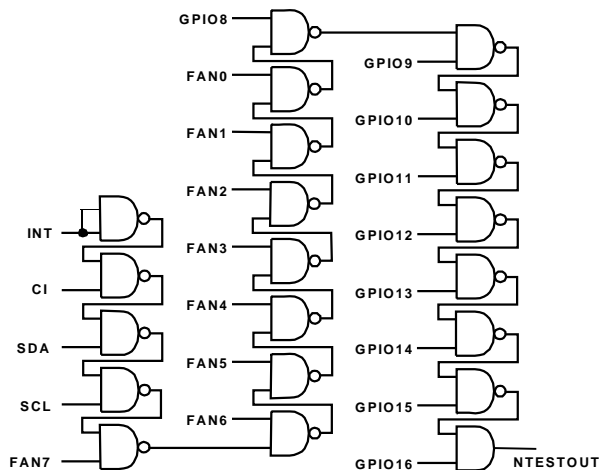

Figure 22. NAND Tree
mated Test Equipment (ATE) board level connectivity testing. This allows the functionality of all digital inputs to be tested in a simple manner and any pins that are non-functional or shorted together to be identified. The structure of the NAND tree is shown in Figure 22. The device is placed into NAND Tree Test Mode by powering up with pin 25 held high. This pin is sampled automatically after power-up and if it is connected high, then the NAND test mode is invoked.
2. If any of the inputs shown in Figure 22 are unused, they should not be connected direct to ground, but via a resistor such as 10k $\Omega$ . This will allow the ATE (Automatic Test Equipment) to drive every input high so that the NAND tree test can be properly carried out.